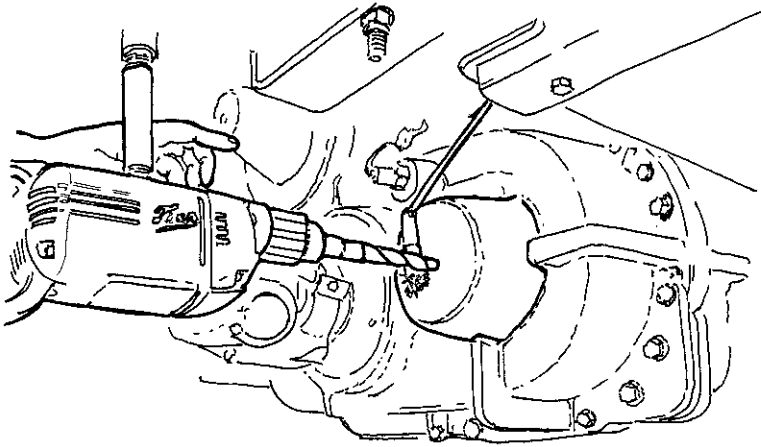
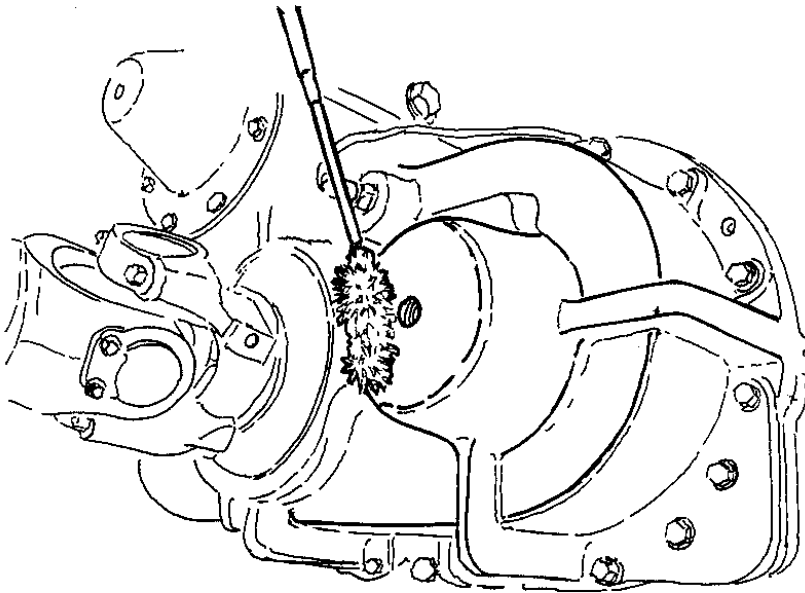

Figure 6 Position Magnet at Drill Location
Figure 7 Drill Debris on Magnet
6. Position a magnet as close as possible to catch metal chips and drill through the boss with a 19/32 inch drill bit (Figure 6 and Figure 7).